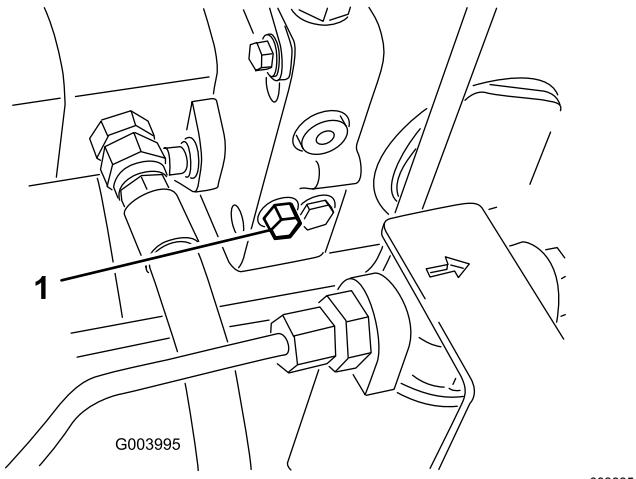

Figure 37
1. Rotate the bypass-valve bolt 1-1/2 turns to open and allow oil to bypass internally (Figure 37).